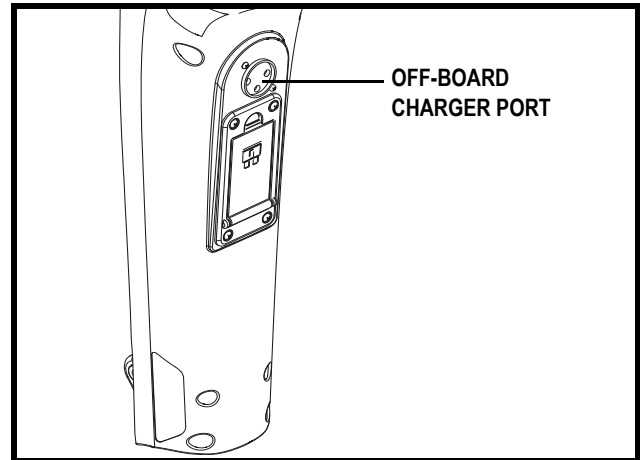

Figure 5. Off-board Charger Port (Tiller Mounted)
The off-board charger power lead plugs into this port during battery charging. The off-board charger port will be located on the tiller. See figure 5.
4. Plug the 3-pin charger power lead into the off-board charger port. **See figures 5 and 10.**